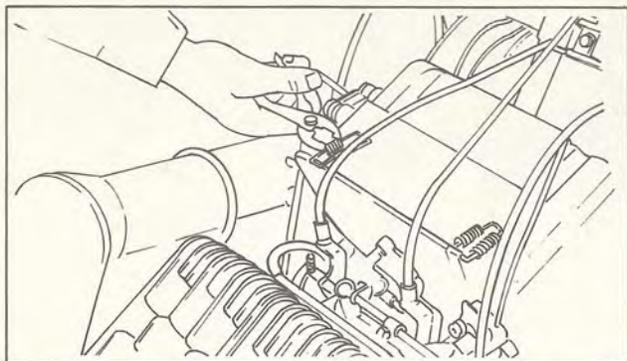

Fig. 2-1
3. Remove the two spring assemblies from the silencer, and remove silencer 1. (Fig. 2-1)